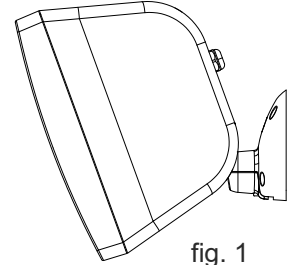

fig. 1
N.B. To obtain the IP55 protective degree, the rotation angle of the speaker must be less than 15° downwards (see fig. 1)